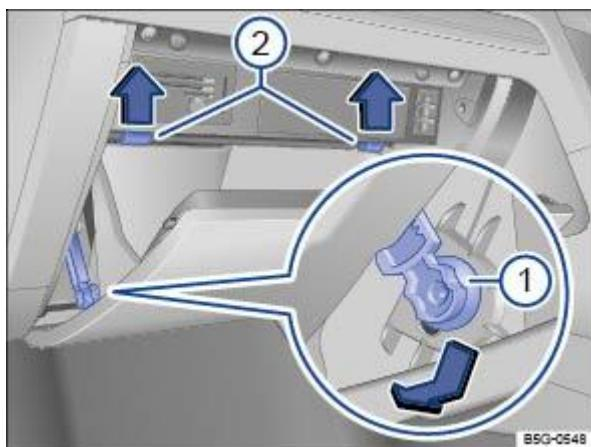

Fig. 171 Fuse box cover in the dash panel: right-hand drive vehicle, on the front passenger side.
- ② Open the stowage compartment on the front passenger side and remove the contents if necessary ⇒ Fig. 171 .
- ② Slide the braking element ⇒ Fig. 171 ① downwards into the opening in the holder and pull it out sideways.
- ② Push catches ⇒ Fig. 171 ② upwards in the direction of the arrow whilst opening the stowage compartment further.
- To install: move the stowage compartment into position. Insert brake element into the opening of the holder and push it upwards until it audibly clicks into place. Carefully push the stowage compartment forwards beyond the resistance of the catches ⇒ Fig. 171 ②.